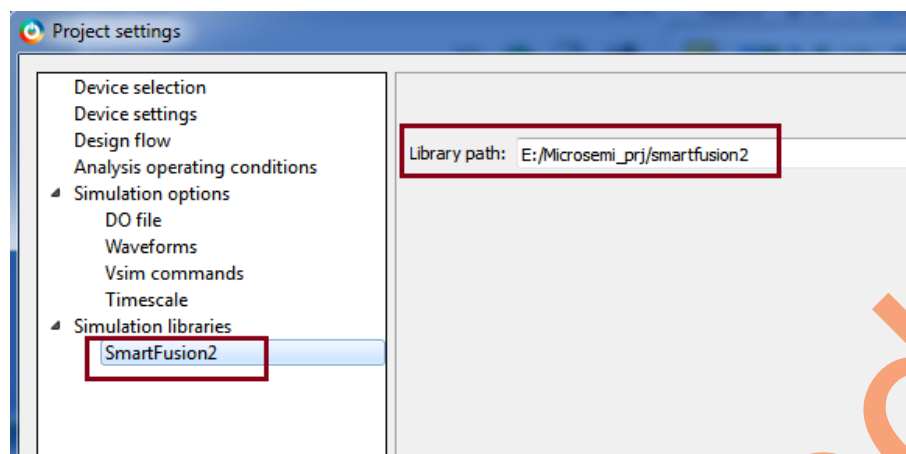

Figure 45. Project Settings – Specifying Precompiled Library Path
- I. In the **Library path**, enter the new location where you copied the precompiled library (for example, E:\Microsemi_prj\smartfusion2), as shown in Figure 45.